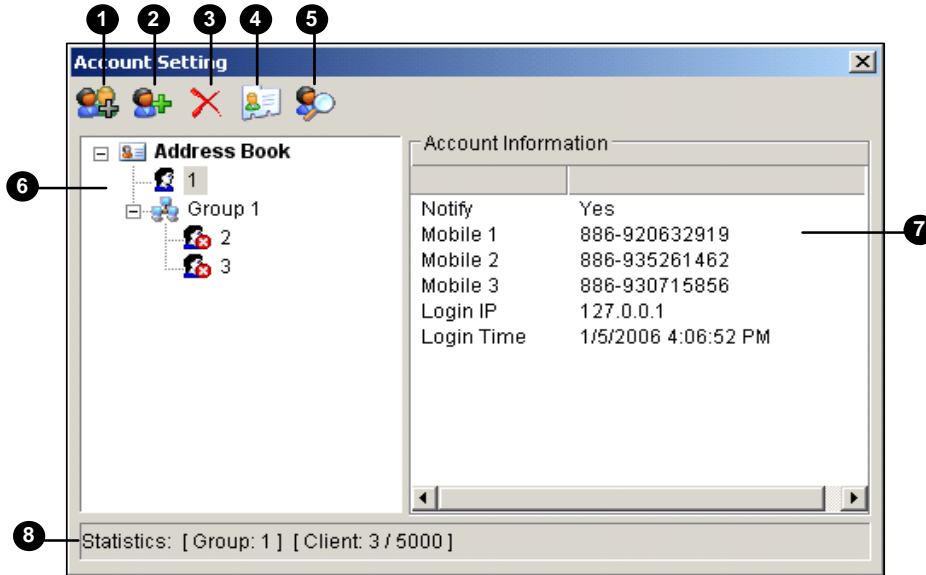

Figure 10-6
1. Click the **Add A Client** button (No. 2, Figure 10-6). This dialog box appears.
In the Account Settings window (Figure 10-6), right-click the desired client and then select **Disable**.